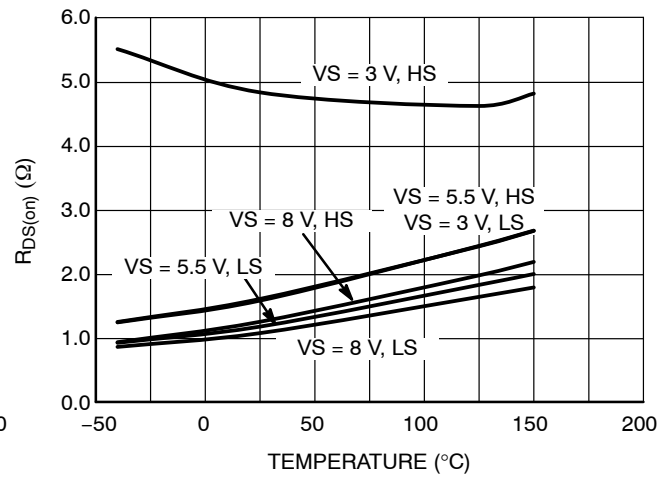

Figure 11. $R_{DS(on)}$ vs. Temperature
- Refer to Figures 11 and 14 for $R_{DS(on)}$ behavior.